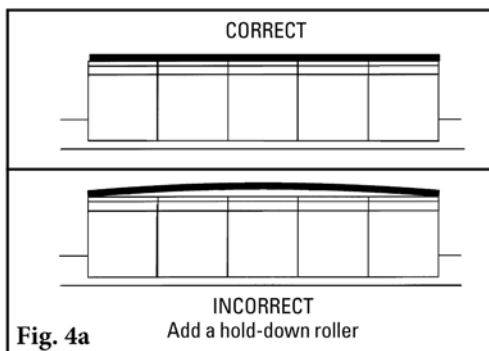

Fig. 4a
4. **Set the blade tension.** Turn the top adjusting bolt jam nuts down until light tip to belt contact is made across the entire width of the cleaner. Add an additional 1 turn on the top adjusting bolt jam nuts and lock the bottom adjusting bolt jam nuts. Tighten all clamp block lock bolts. **NOTE:** If the belt is cupped, do not overtension the blades to contact the belt. A hold-down roller should be installed to flatten the belt (Fig. 4a and 4b). (Try the Stabilizing Return Roller or Stabilizing Roller Bracket Kit.)